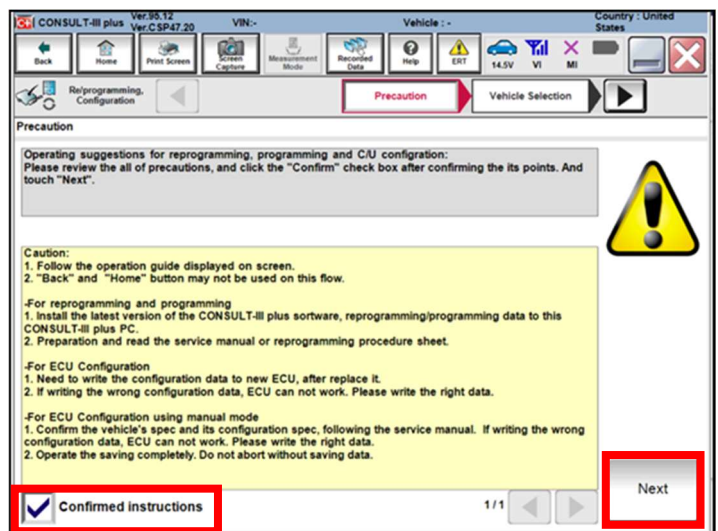

Figure 7
8. Review Precautions. (Figure 7)